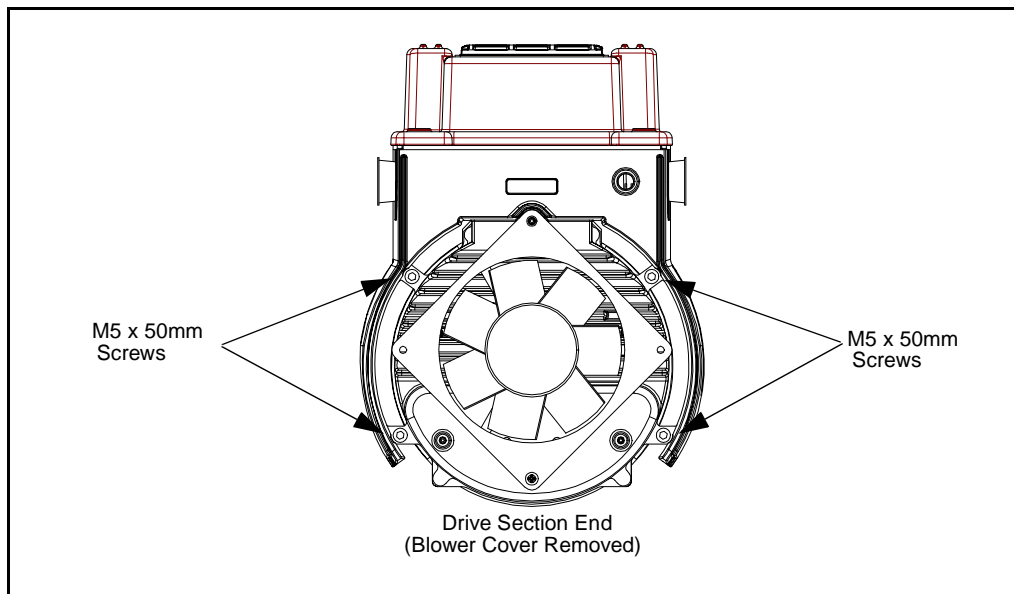

Figure E.2 – Hole Location
- Step 9. Secure the drive section to the motor section using the four M5 x 50mm screws removed in step 2. See figure E.2 for the hole locations. Tighten screws first to 1.5 Nm (13 in-lb). Then torque to 3.9 Nm (35 in-lb) using a cross-rotational pattern.